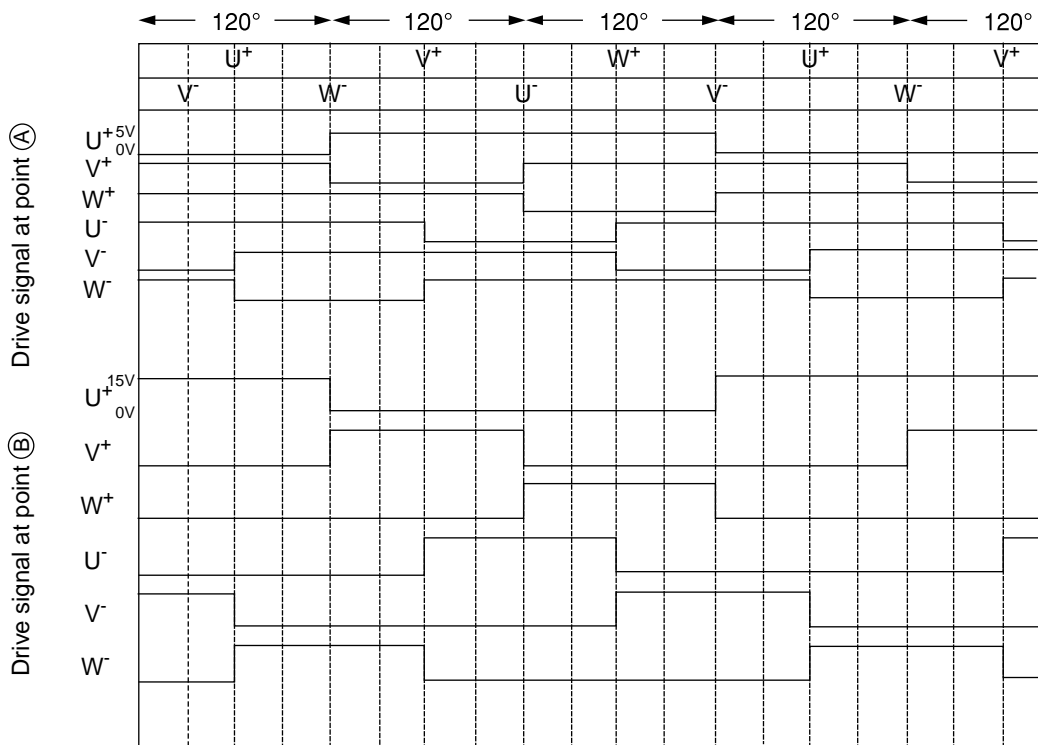

Fig. 7-3
- In high speed rotation mode (PWM range), as shown in Fig. 7-3, 0-5V drive signal is output from microcomputer for each phase (with no chopper because of full duty). Signal output from microcomputer is input to IC1 and is inverted by active Lo to become 0-15V drive signal; it is then drive the transistor of each phase.